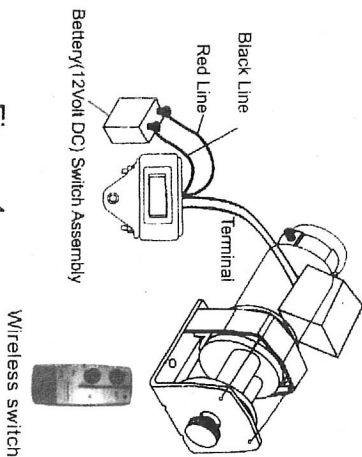

Figure 4
2. Route the two couple of lines from the switch to the motor and battery respectively. Connect the red line to the positive (+) terminal and the green (or black) line to the negative (-) terminal of the 12v battery. Connect the rest two lines to the terminal on the motor of the electric winch (Figure 4)